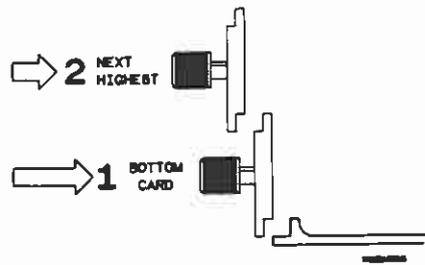

Figure A-6. Endplate Overhang
- n. Repeat for all cards and filler panels in a bottom to top order. See figure A-6.